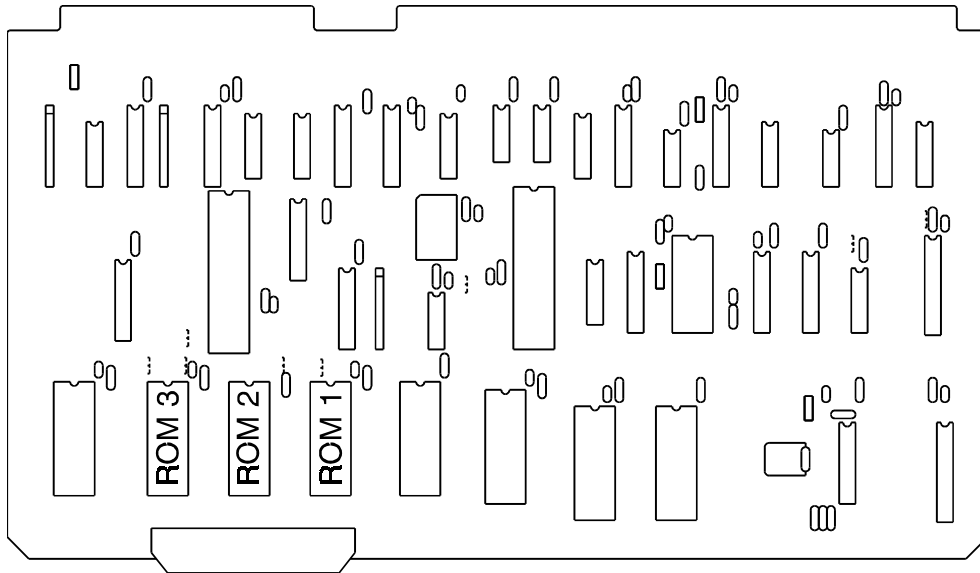

Figure 2-8. CPU Board
- Remove white plastic board support (item 1). NOTE: early BAS 100A models do not have the board support.
- b) Lay CPU board (Figure 2-8) on a flat surface. Components of the CPU board are sensitive to static. Do not lay the board on carpeting, plastic (e.g., bubble wrap), or other surfaces that build up static charge.
- d) Properly align new ROM1 on the socket and press in. It is imperative that the chip oriented as shown in Figure 2-8 (notched end away from the board edge with the ribbon cable connector). Be careful not to bend the legs and ensure that all the legs are inserted into the socket.
2.4 Personal Computer (PC) Installation